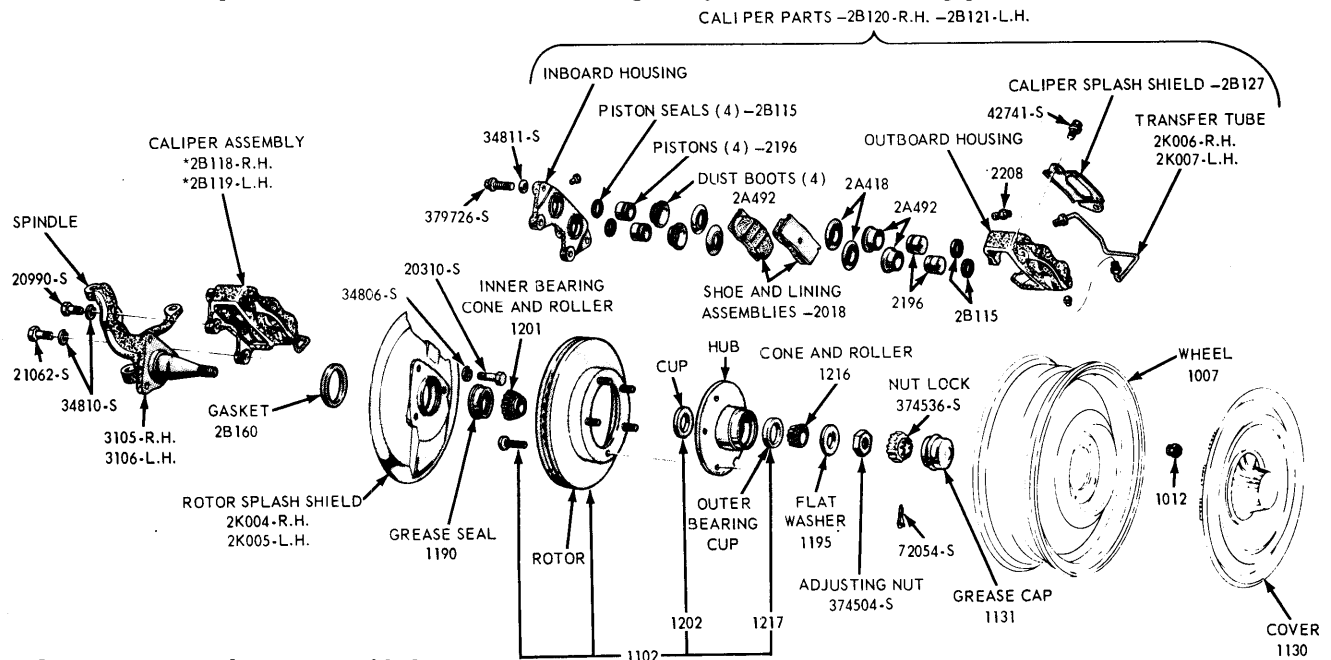

FIG. 12—Disc Brake Disassembled
1. Remove the wheel and tire assembly from the hub and rotor assembly (Fig. 12). **Be careful to avoid damage or interference with the caliper splash shield, bleeder screw fitting or transfer tube.**
1. If the rotor is being replaced, remove the protective coating from the new rotor with carburetor degreaser. Pack a new set of bearings with specified grease, and install the inner bearing cone and roller assembly in the inner cup. Pack grease lightly between the lips of a new grease retainer and install the retainer (Fig. 12).
2. Remove the three bolts that retain the splash shield to the spindle, and remove the shield (Fig. 12).
2. If the shield is bent, straighten it out before installation. Position the shield to the spindle, install the retaining bolts, and torque to specification (Fig. 12).